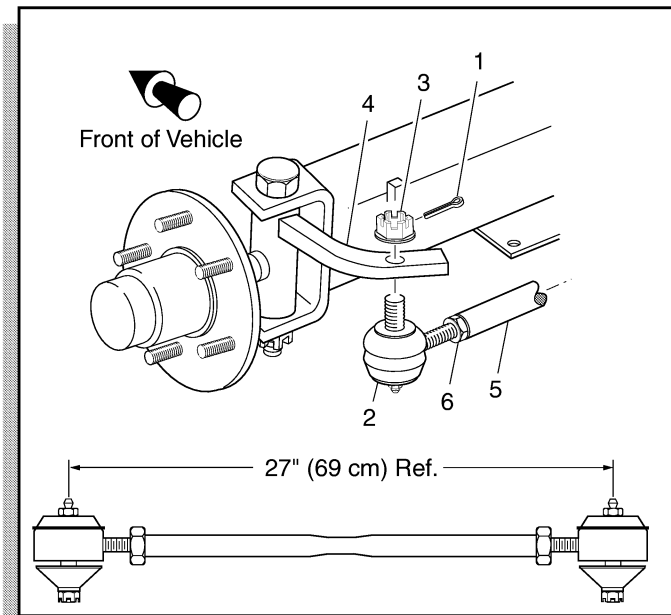

Fig. 4 Tie Rod End Replacement and Adjustment
Remove the cotter pin (1) from the tie rod end (2) and remove the castellated nut (3) (Ref Fig. 4 on page E-3).
Install replacement tie rod end into threaded tube. Adjust tie rod to 27" (69 cm) between the center of tie rod ends and tighten jam nut (6) to 36 - 40 ft. lbs. (48 - 54 Nm) (Ref Fig. 4 on page E-3). Secure tie rod to spindle in reverse order of disassembly. Tighten the castellated nut (3) to a **minimum** of 36 ft. lbs. (48 Nm) torque and continue tightening as required in order to insert a new cotter pin. Maximum torque is 50 ft. lbs. (68 Nm).